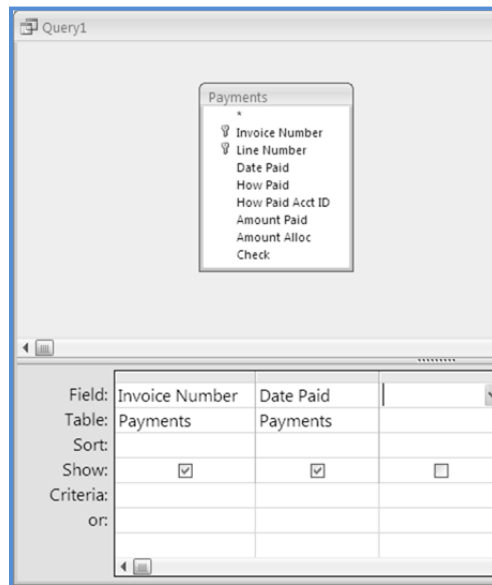

Fig. 1.2.7: Select Required columns
4. Double-click the columns *Invoice Number* and *Date Paid* so that they appear in the *Columns* tab in *Query Design* as shown in Fig. 1.2.7.